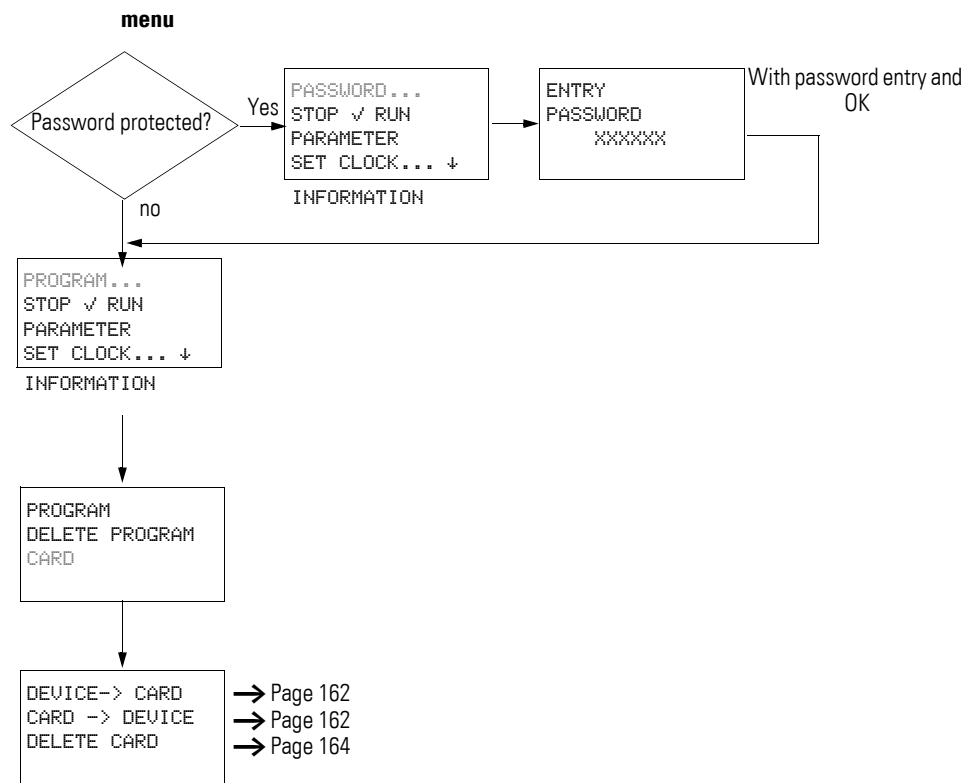

Figure 107: Choose CARD menu
- You are in the CARD menu and password protection is removed, → Figure 107, page 161.